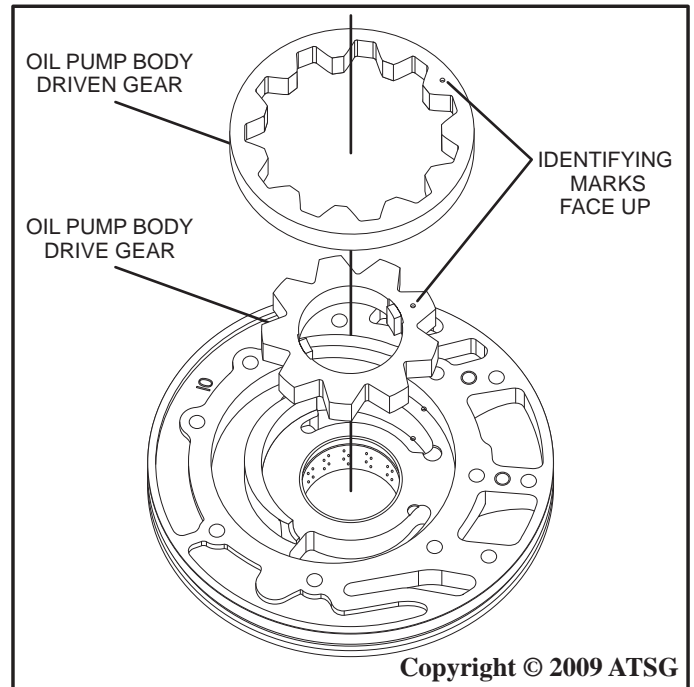

Figure 90
12. Install the oil pump body driven gear, the oil pump body drive gear and coat both gears with a small amount of ATF as shown in Figure 90.